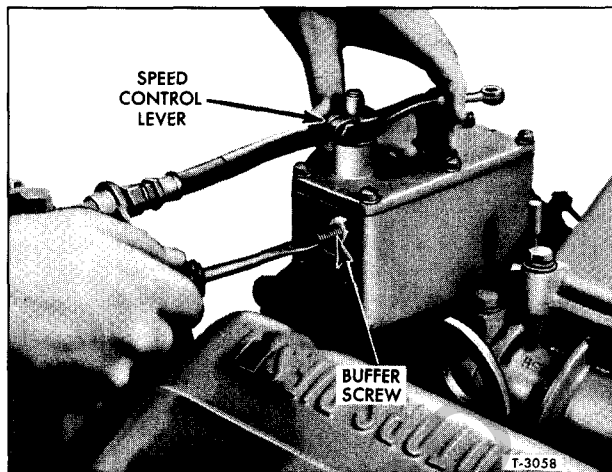

Figure 11—Adjusting Buffer Screw
1. Turn the buffer screw in (fig. 11) so it contacts the differential lever as lightly as possible and still eliminates the engine roll or surge.